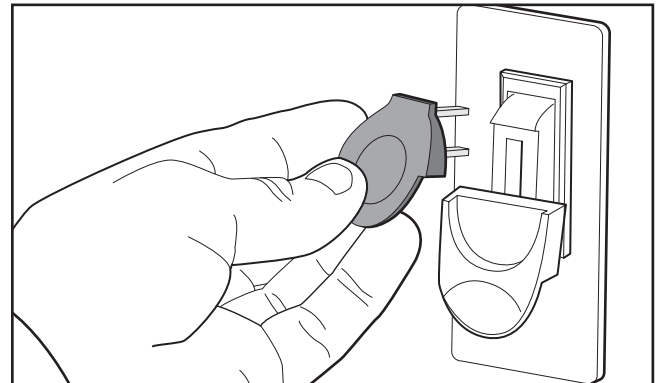

Figure 17. Removing switch disabling key from paddle switch.
5. Remove switch disabling key from ON/OFF switch, as shown in **Figure 17**.